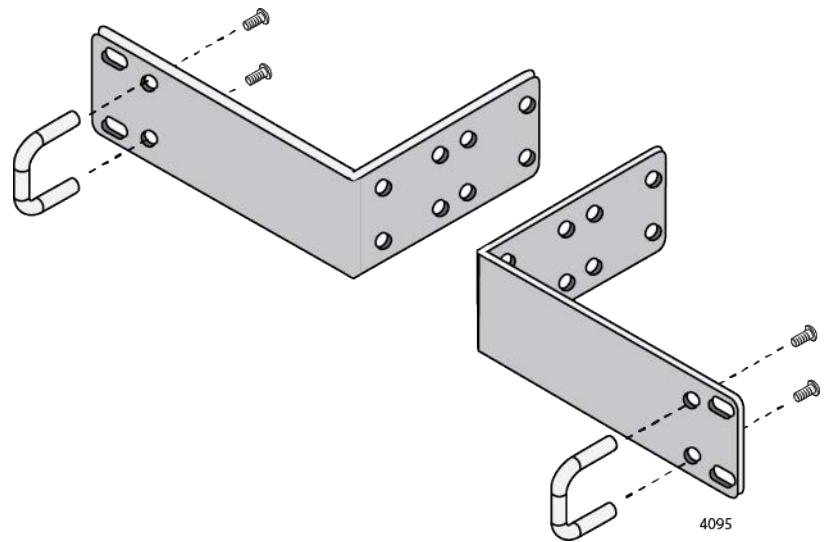

Figure 33. Attaching the Handles to the RKMT-J14 Brackets
1. Attach the two handles to the RKMT-J14 Brackets using the four M3x6mm screws included in the brackets kit. Refer to Figure 33 on page 63. Attaching the handles is optional.